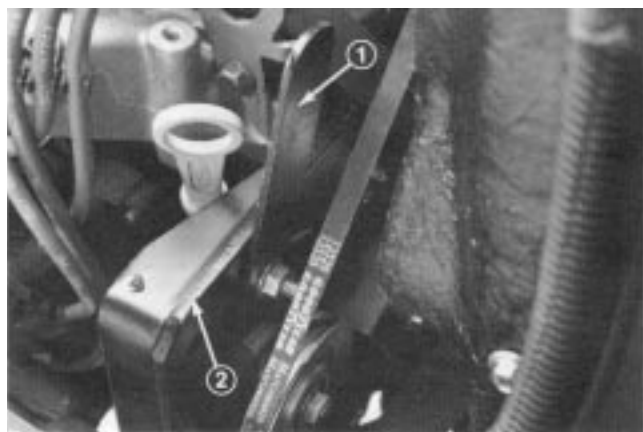

Figure 37
1. To adjust belt tension, loosen upper and lower nuts securing idler arm to front engine mount (Fig. 37).